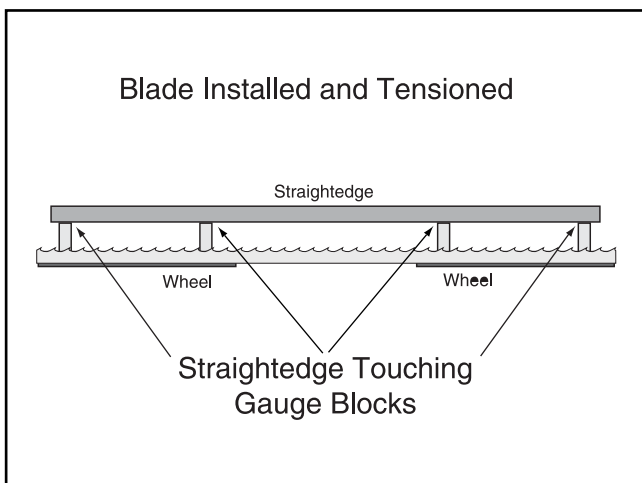

Figure 51. Overhead view of wheel position when checking with a straightedge and the blade is installed and tensioned.
11. Check the new position of the wheels. Ideally the gauge blocks will all be perfectly aligned with each other, as illustrated in **Figure 51**.